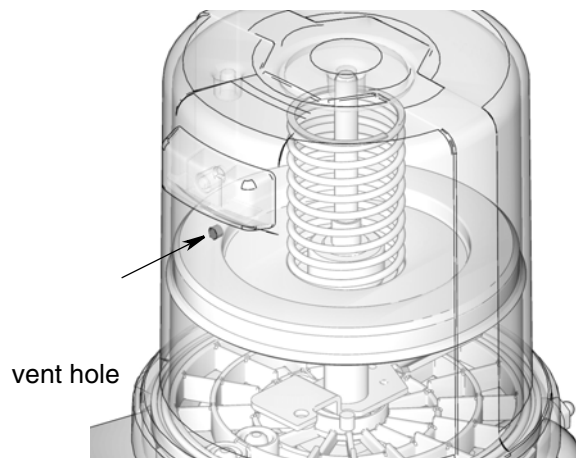

FIG. 25
3. Fill reservoir with grease until seal of follower plate breaches the vent hole (FIG. 25) and the majority of air is expelled from the reservoir.